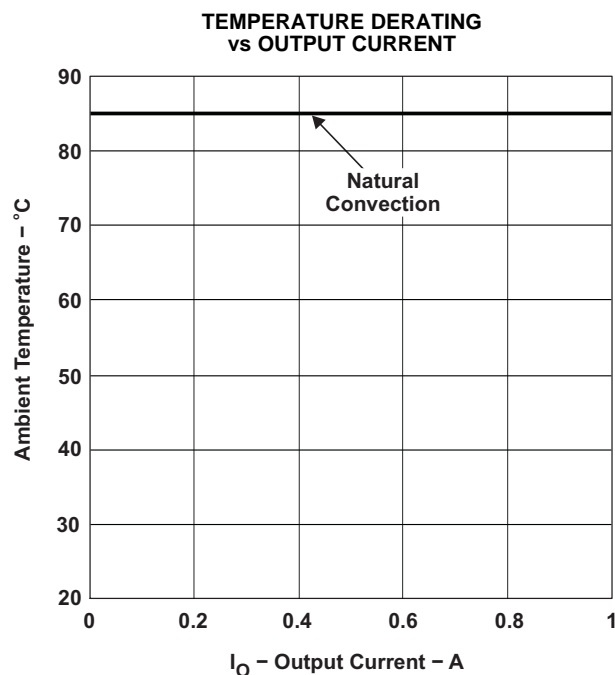

Figure 12.
- (6) The temperature derating curves represent operating conditions at which internal components are at or below manufacturer's maximum rated operating temperature. Derating limits apply to modules soldered directly to a 100-mm × 100-mm, double-sided PCB with 2 oz. copper. For surface mount packages, multiple vias (plated through holes) are required to add thermal paths around the power pins. Please refer to the mechanical specification for more information. Applies to Figure 12.